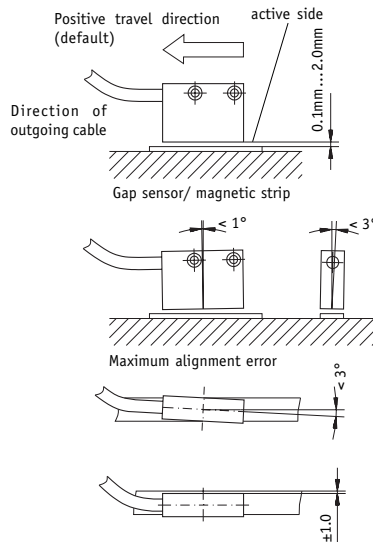

Fig. 7 : Mounting tolerances
- Der Sensor ist mit der aktiven Seite vom Band abgewandt montiert (siehe Abb.7).
The sensor's position relative to the magnetic strip is exactly defined. The correct gap between sensor and magnetic strip must be maintained over the total travel distance, irrespective whether the strip or sensor moves. (fig. 7).
Within the defined limits (fig. 7), errors due to deviation are less important than errors resulting from strip and sensor tolerances.